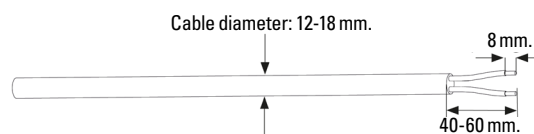

Fig. 57. Stripping the AC cable.
3. Remove the insulation sleeve from the AC bundle by about 50 mm, and remove the insulation from the end of the L/N cables by about 8 mm, as shown in Fig. 57.